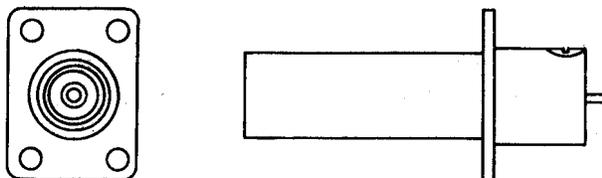

Fig. 5—505A
2.05 505A: The 505A (Fig. 5) is a coaxial-type jack designed for use with the 358A and similar-type plugs. This jack is tested at 2000 volts ac. This jack is designed for a soldered wire connection to the inner contact terminal at the mounting end. This jack is not designed for a coaxial cable connection. The outer contact is electrically common with the mounting plate. This jack is used in the J68371A transmitter-receiver bay of the TJ Radio System.